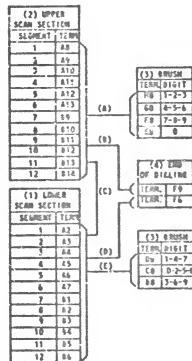
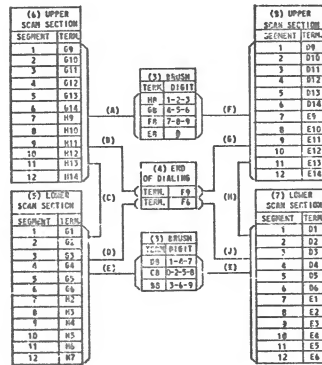

FIG. 2
FIG. 3
- A. USE FIG. 2 WHEN THE LTD INCORPORATING REMOTE TESTING CIRCUIT IS ASSOCIATED WITH ONE NO. 14 LTD.
2. THE TERMINALS SHOWN IN BLOCKS (1), (2), (3) AND (4) OF FIG. 2 ARE THOSE IN THE AREAS OF LISC DESIGNATION IN FIG. 1.
3. THE ASSIGNED TELEPHONE NUMBER IS SEQUENTIALLY ASSOCIATED WITH THE LOWER AND UPPER SCAN SECTION SEGMENTS IN BLOCKS (1) AND (2). CROSS CONNECTION PATHS (A) AND (B) INDICATE THAT THE BRUSH TERMINALS - BLOCK (3) - ARE ASSOCIATED WITH THE LOWER AND UPPER SCAN SEGMENTS - BLOCKS (1) AND (2).
- B. USE FIG. 3 WHEN THE LTD INCORPORATING REMOTE TESTING CIRCUIT IS ASSOCIATED WITH TWO NO. 14 LOCAL TEST DECKS SHALL BE CROSS CONNECTED PER FIG. 3.
1. THE TERMINALS IN BLOCKS (5) AND (6) ARE ASSOCIATED WITH THE REGULAR TEST DECK AND THE TERMINALS IN BLOCKS (7) AND (8) ARE ASSOCIATED WITH THE SECOND OR ALTERNATE TEST DECK.
2. THE CROSS CONNECTIONS FOR FIG. 3 SHALL BE INSTALLED IN THE SAME MANNER AS THOSE IN FIG. 2.